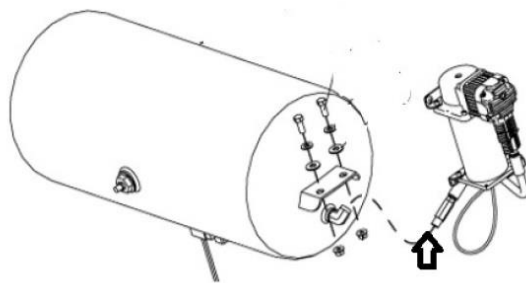

Figure 284
4. In the line leading to the tank is a check valve that keeps the air from escaping out the tank through the compressor Figure 284.